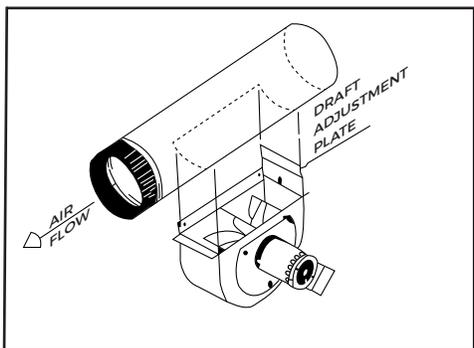

Figure 1
- A. If installing a DI-2, mount draft adjustment plate onto fan housing. (See Figure 1)
- B. Draft inducer can be installed on horizontal, vertical or inclined vent pipe. Never install draft inducer on top or side of horizontal or inclined vent pipe. Using supplied mounting template, cut out indicated area on vent pipe. Install inducer into vent pipe and mark the location of the mounting holes. Drill holes to the diameter indicated on template. Secure inducer housing to vent pipe with screws supplied. (See Figure 1) Support the vent pipe and draft inducer with an accepted method.
- E. To adjust draft inducer air flow on the Model DI-1, manually bend the draft adjustment plate until desired draft is obtained. For Models DI-2 and DI-3, loosen the nut(s) and readjust the position of the draft adjustment plate until desired draft is obtained. Then re-tighten nut(s). (See Figure 1). Removal of adjustment plate will increase air flow.